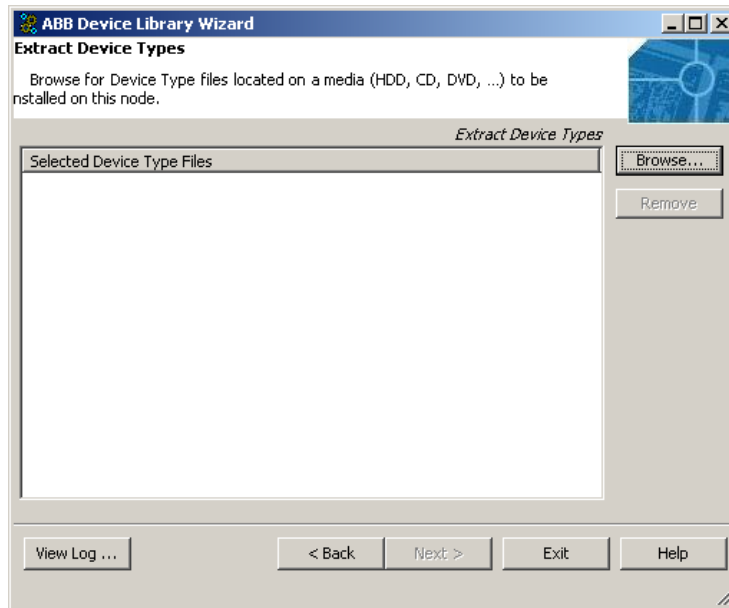

Figure 62. Browse and Select the Device Object Type File
2. In the resulting screen, similar to the one shown in Figure 62, Click on the **Browse** button.